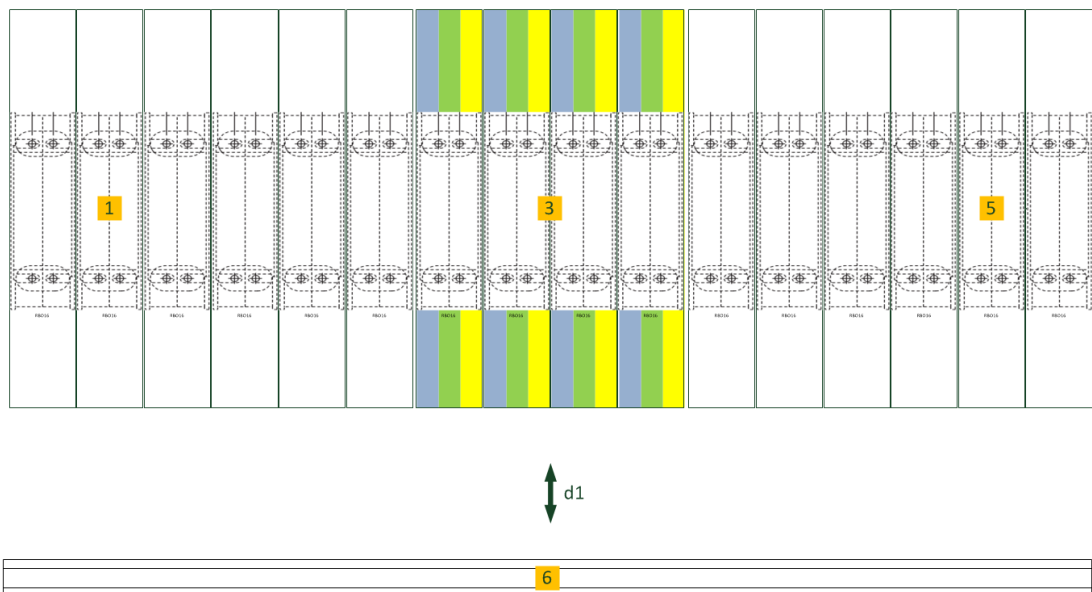
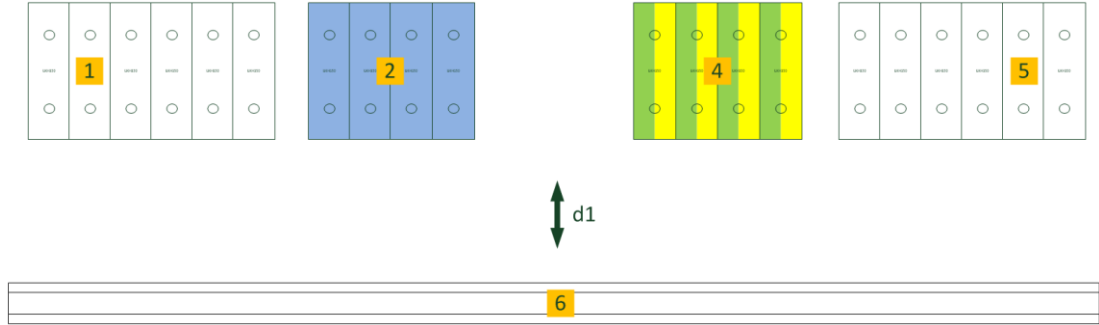
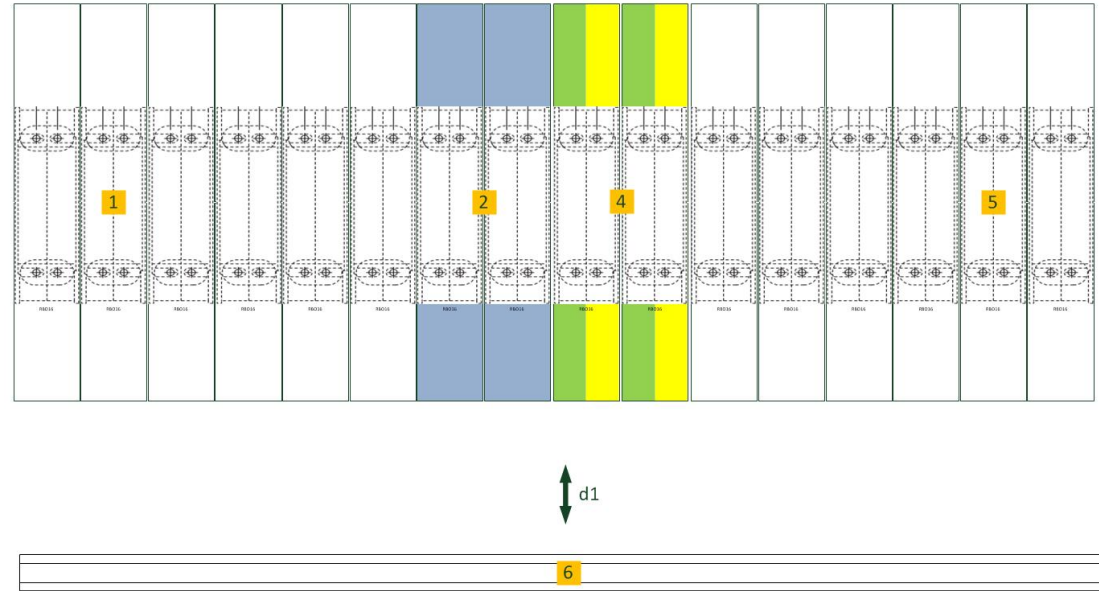

Figure 5-30 Overview of the terminal points for TN-C systems and flat connection
Figure 5-31 Overview of terminal points for TN-S/TT systems and connection terminals
Figure 5-32 Overview of the terminal points for TN-S/TT systems and flat connection
*Table 5-15 Designation of the figures: Figure 5-29, Figure 5-30, Figure 5-31, Figure 5-32*